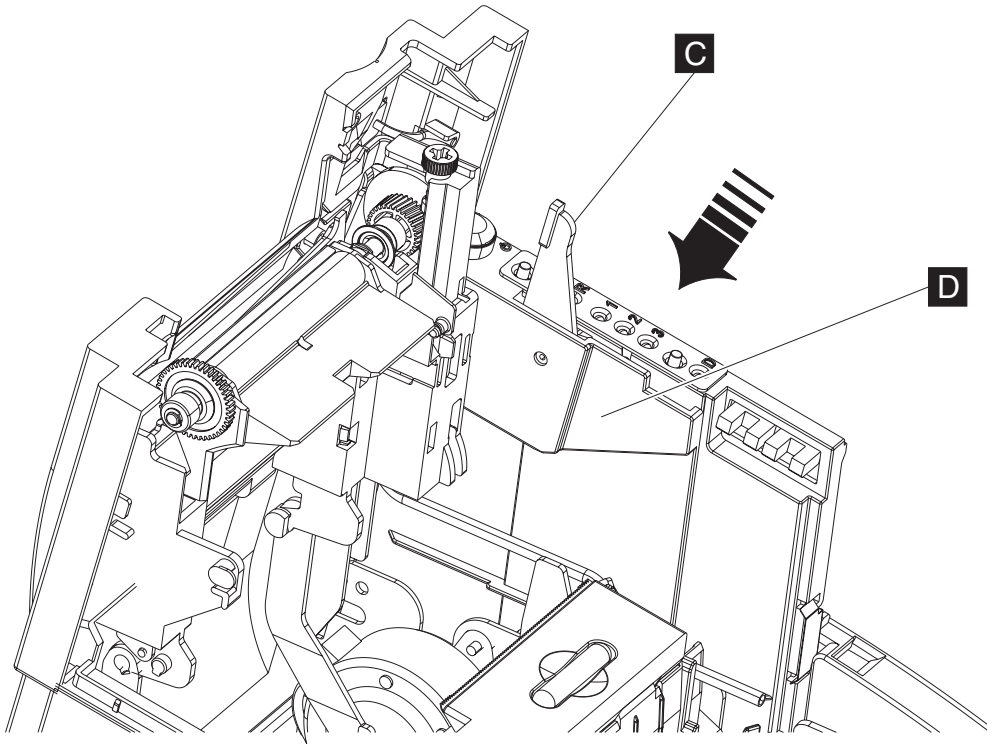

Figure 27. Replacing the logic card
5. Insert the logic card (**D**), and press down on the blue lever (**C** in Figure 27) to lock the card into the correct position.
3. Press down on the blue lever (**C** in Figure 27) to lock the card into the correct position.